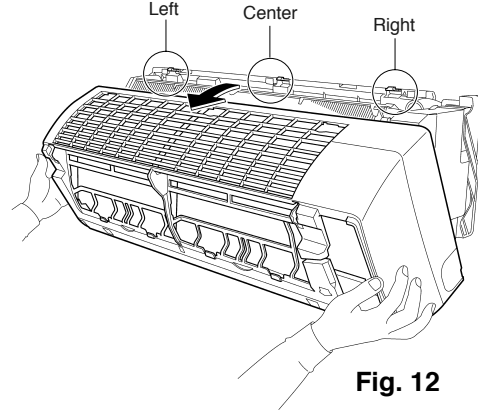

Fig. 12
- (3) The front grille can be removed o pull out the upper part forward and lift up the lower part. (Fig.12)